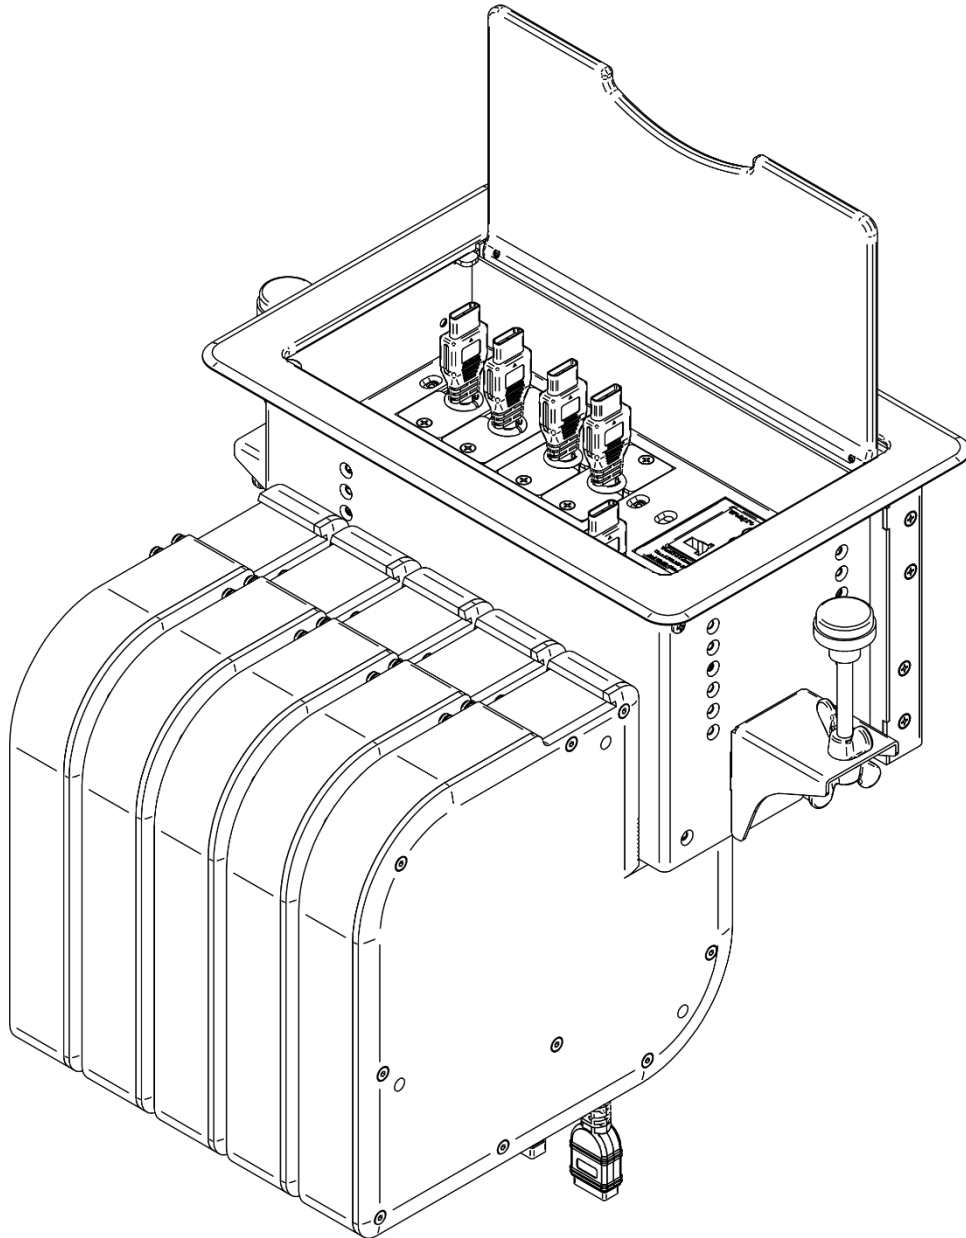

Figure 7: Attaching Several KRT-4 Units to TBUS with Sliding Cover
- For TBUS units with a sliding cover (for example, the Kramer TBUS-10xl), attach the KRT-4 units side-by-side to the front side of the TBUS enclosure (Figure 7):